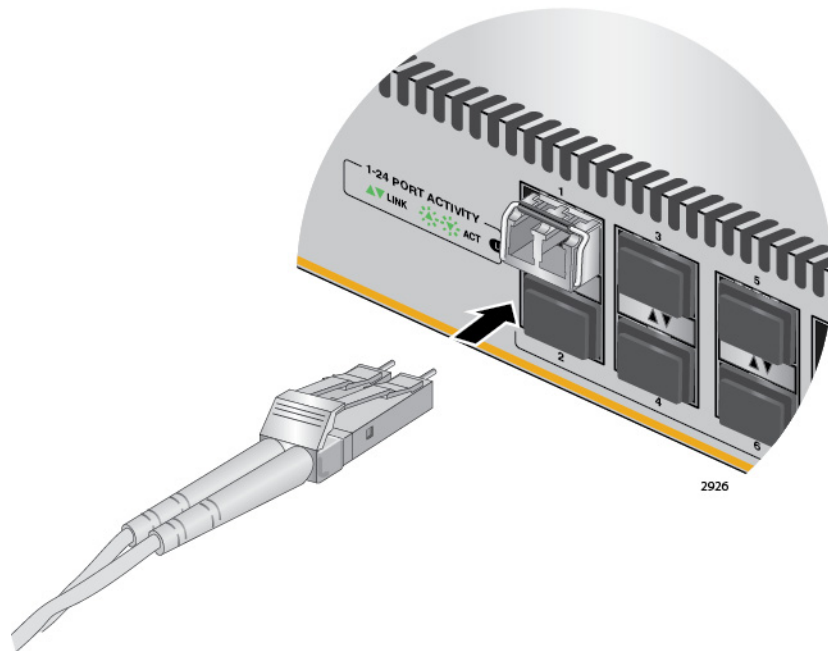

Figure 71. Connecting a Fiber Optic Cable to an SFP Transceiver
7. Connect the fiber optic cable to the transceiver, as shown in Figure 71. The connector on the cable should fit snugly into the port, and the tab should lock the connector into place.